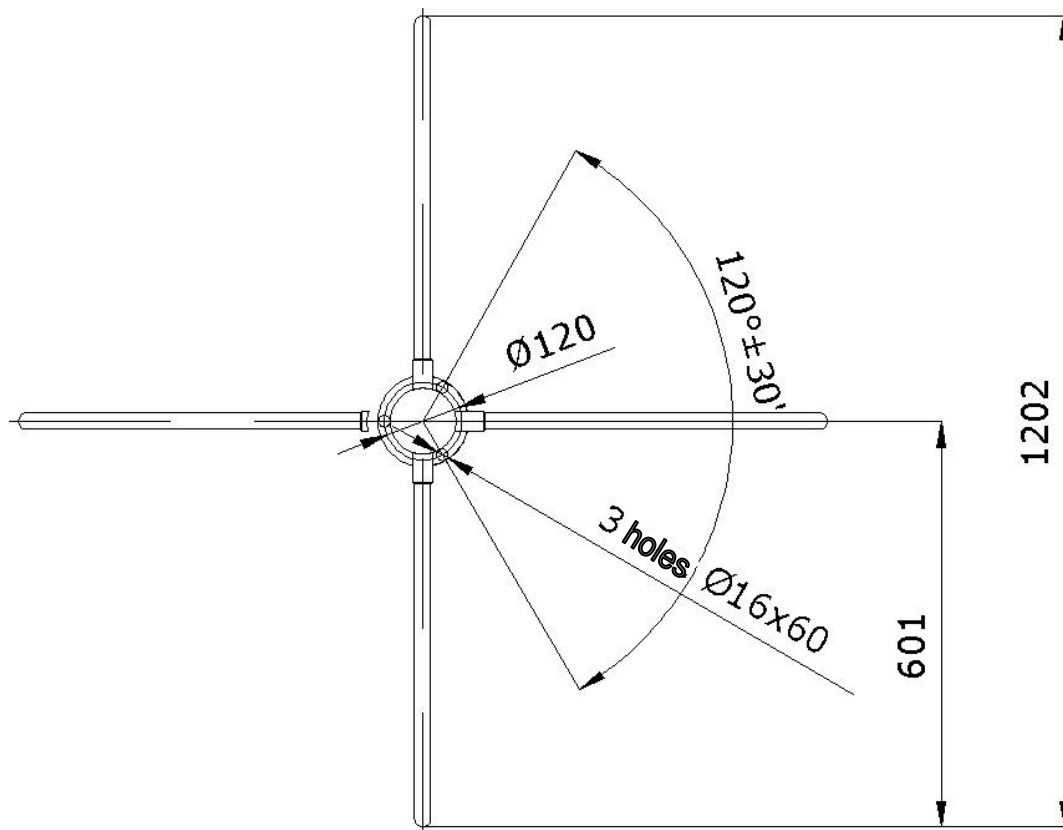

Fig. 6. Marking layout for RTD-03S installation
- to mark the mounting holes according to the enclosed installation instructions (see Fig.6);
8.3.2. Mark out the holes for the anchor bolts for the turnstile post installation and electric raceways for the control cable (10) and the power cable (11) as shown in Fig. 6 and according to your checkpoint layout.